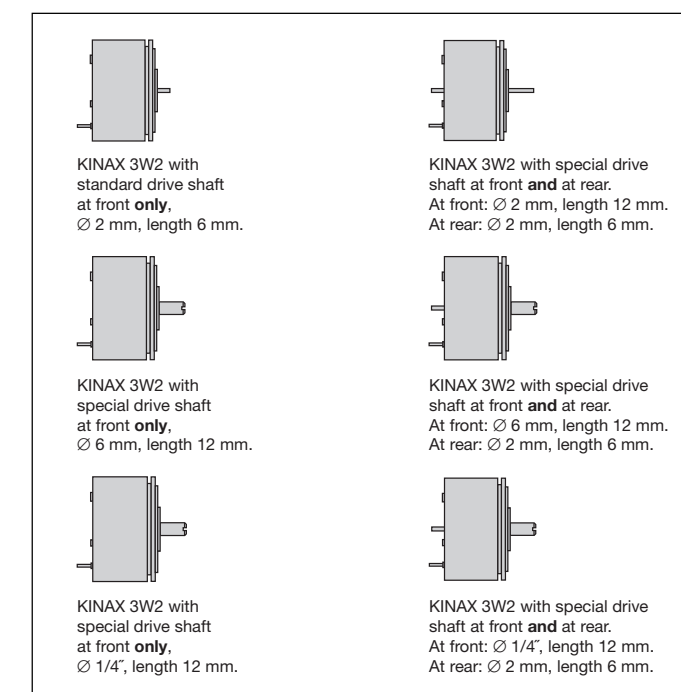

Fig. 1
**Transmitter**, one of the six versions (Fig. 1)
Note The remaining order code digits concern special features, e.g. the drive shaft special, see Fig. 1.
All six versions of the transmitter (Fig. 1) which differ in appearance by the type of shaft can be mounted either **directly** or by means of **3 mounting clips** to the item being measured. Both methods of mounting and the relevant drilling and cut-out plans can be seen from Table 1.